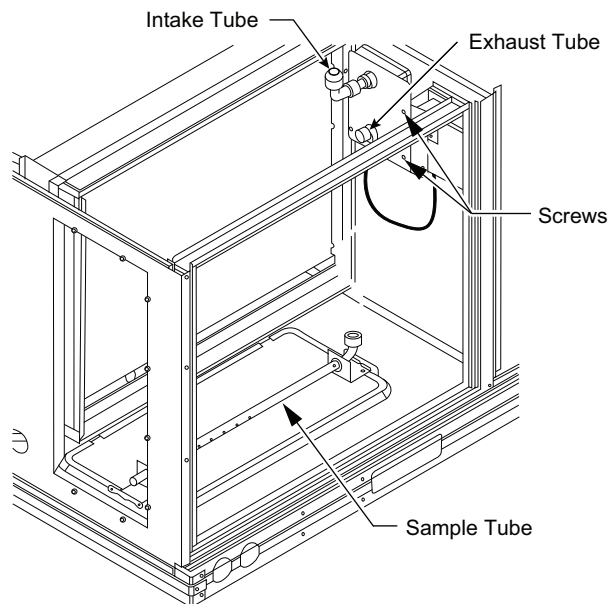

Fig. 48 — Return Air Smoke Detector Shipping Position
1. Unscrew the two screws holding the return air sensor detector plate. See Fig. 48. Save the screws.